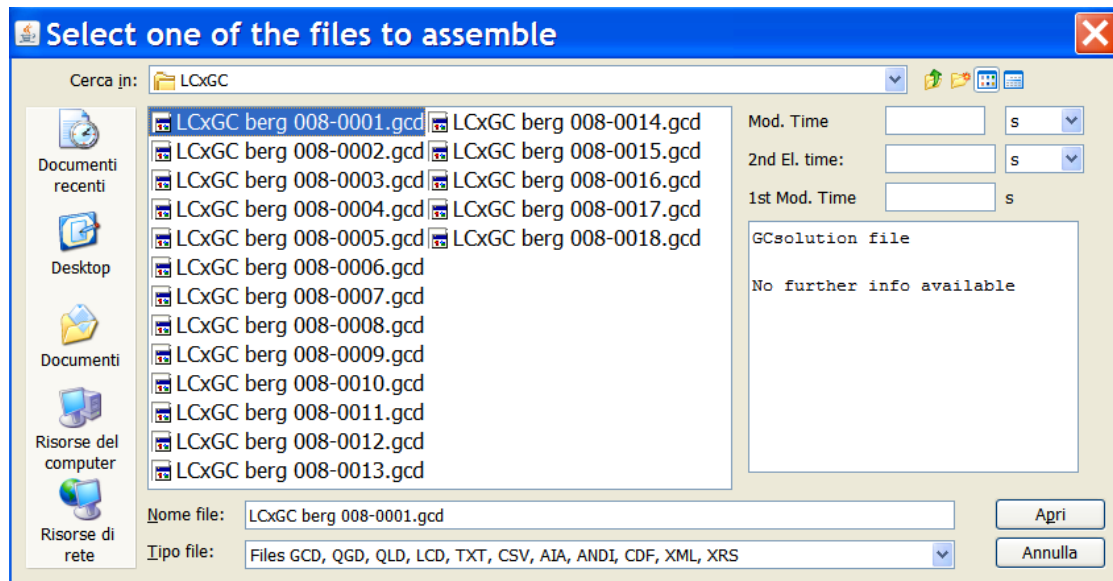

Figure 11.18: The File selection Dialog box of the Assemble case
1. Select the menu item **File | Assemble Datafile**; a File Selection Dialog Box, with the title **Select one of the files to assemble**, will appear. See Figure 11.18.